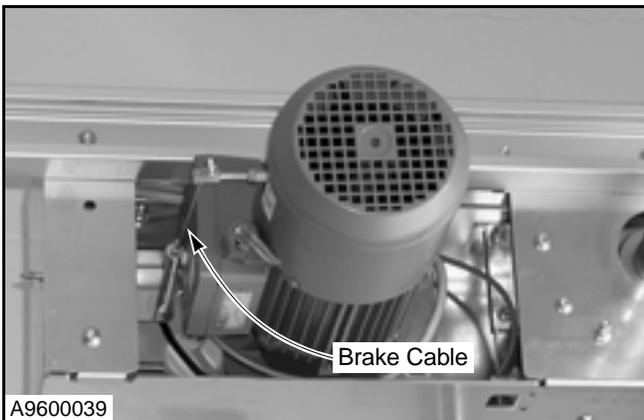
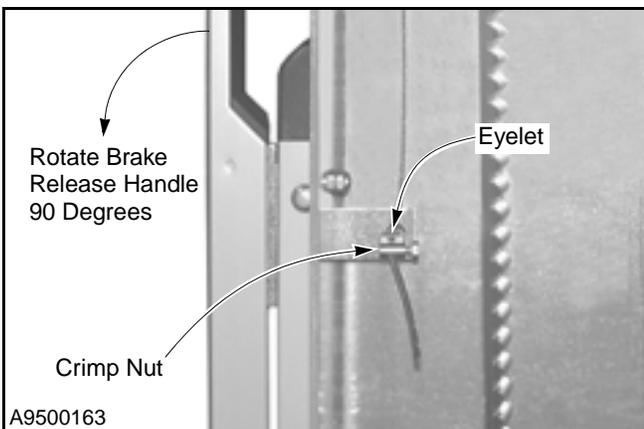

Figure 58
Figure 59
1. One end of the steel cable was connected to the brake mechanism at the factory. For shipping, the other end has been routed out through the side of the drive console. Pull the cable back through the console assembly and route it down through the side column to the brake release handle. (See Figure 58 and Figure 59.)
2. With the brake release handle fully extended out or at 90 degrees, feed the cable through the eyelet in the bottom of the handle. Slide a crimp nut over the end of the cable with the nut tight against the eyelet. Then tighten down the set screw — with most of the slack removed from the cable. The crimp nut is located in the small parts carton. (See Figure 59.)